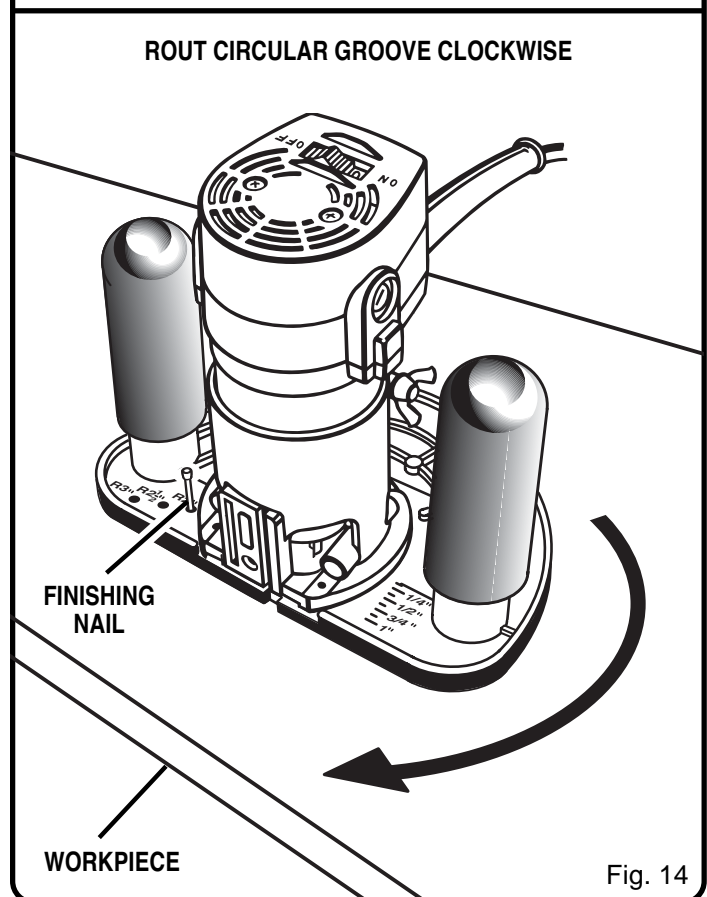

Fig. 14
See Figure 14.
- Rout circular groove in a clockwise direction only. See arrow shown in figure 14.